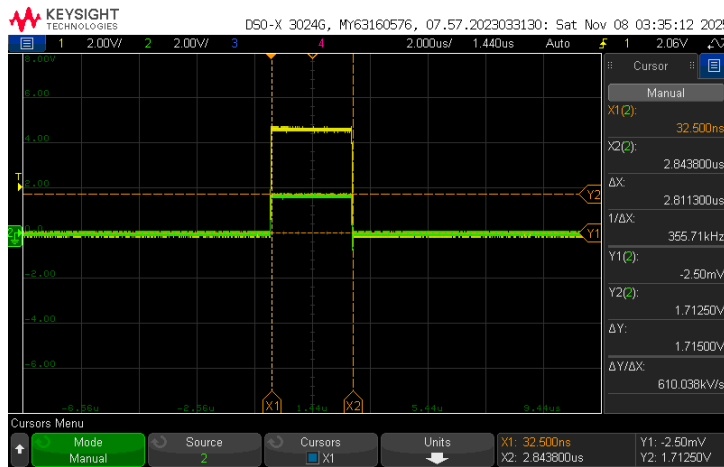

Figure 19 Voltage across 49Ω resistor on shield
- Current across R4 (49Ω) on the shield connected to D12 Pin: In figure 19, yellow is the trigger (D13) and green is the voltage across the 49Ω resistor (TP3 on shield). So, the current = $1.71/49 = 34.89\text{mA}$ for both boards. This same current flows across D11 and D10 since they are connected with the same resistors and LEDs.